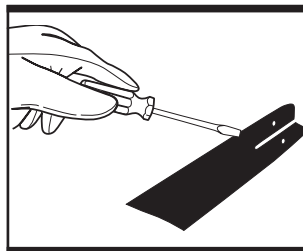

Fig. 16
2). Using a screwdriver, putty knife, wire brush or other similar instrument, clear residue from the rails on the guide bar. This will keep the oil passages open to provide proper lubrication to the bar and chain. (See Fig.16)